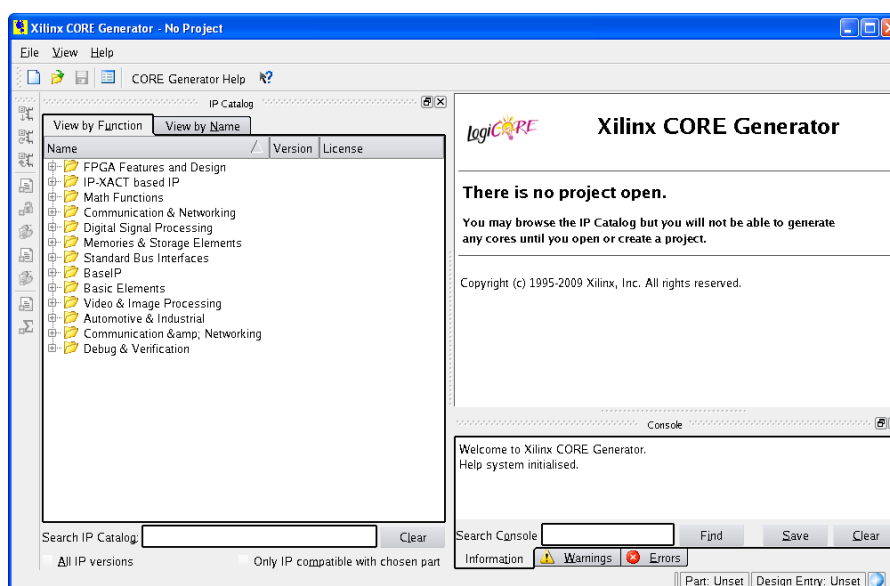

Figure 2-1: CORE Generator Window
2. After creating a new Virtex-5 FXT or TXT family project or opening an existing one, the IP core functional categories appear at the left side of the window, as shown in Figure 2-1.